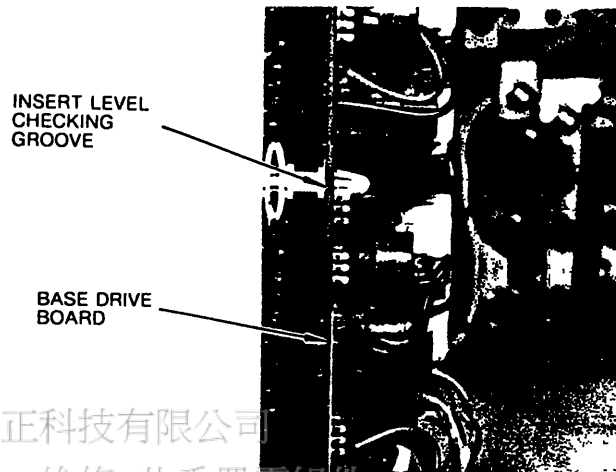

Fig 9.5 Mounting of Base Drive Board
(2) Mounting Procedures (Fig. 9.5)